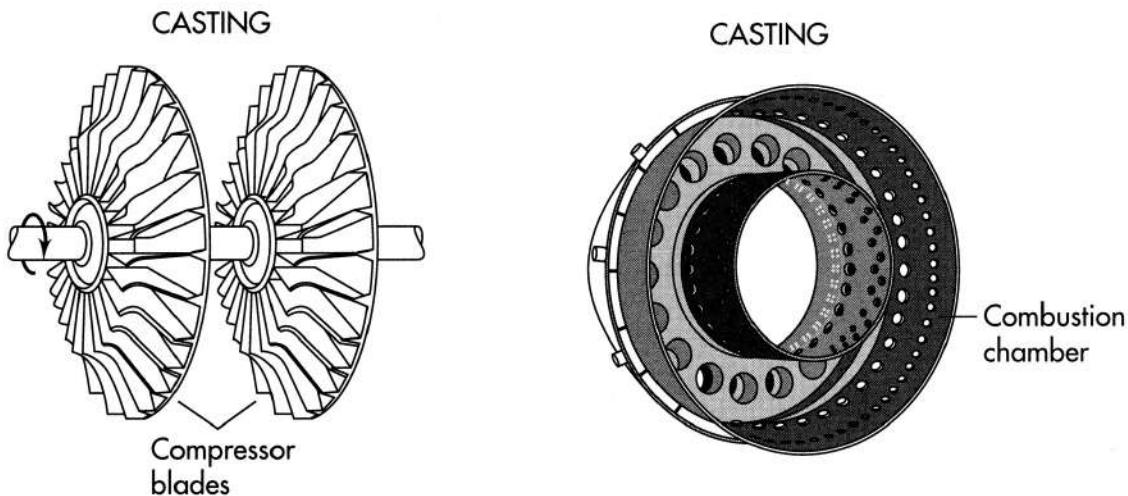

Figure 4. The compressor blades and the combustion chamber are both made by casting.
4. Casting is used to form the compressor blades. In this process the alloy from which the blades will be formed is poured into a ceramic mold, heated in a furnace, and cooled. When the mold is broken off, the blades are machined—cut or shaped—to their final form (see figure 4).